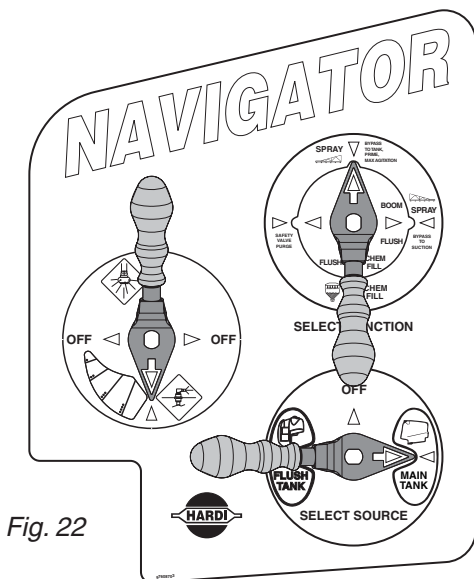

Fig. 22
- 3 Turn the Select Source handle to MAIN TANK. Turn the Select Function handle to SPRAY MAX AGITATION, and turn the Variable Agitation handle straight down for maximum flow through the agitation nozzles (Fig 22).
- 6 When the spray liquid is well mixed, it may be sprayed on the crop. Leave the Select Function handle pointing to the SPRAY MAX AGITATION arrow and turn the Variable Agitation handle down so the spray liquid is continuously agitated while spraying (Fig 22).